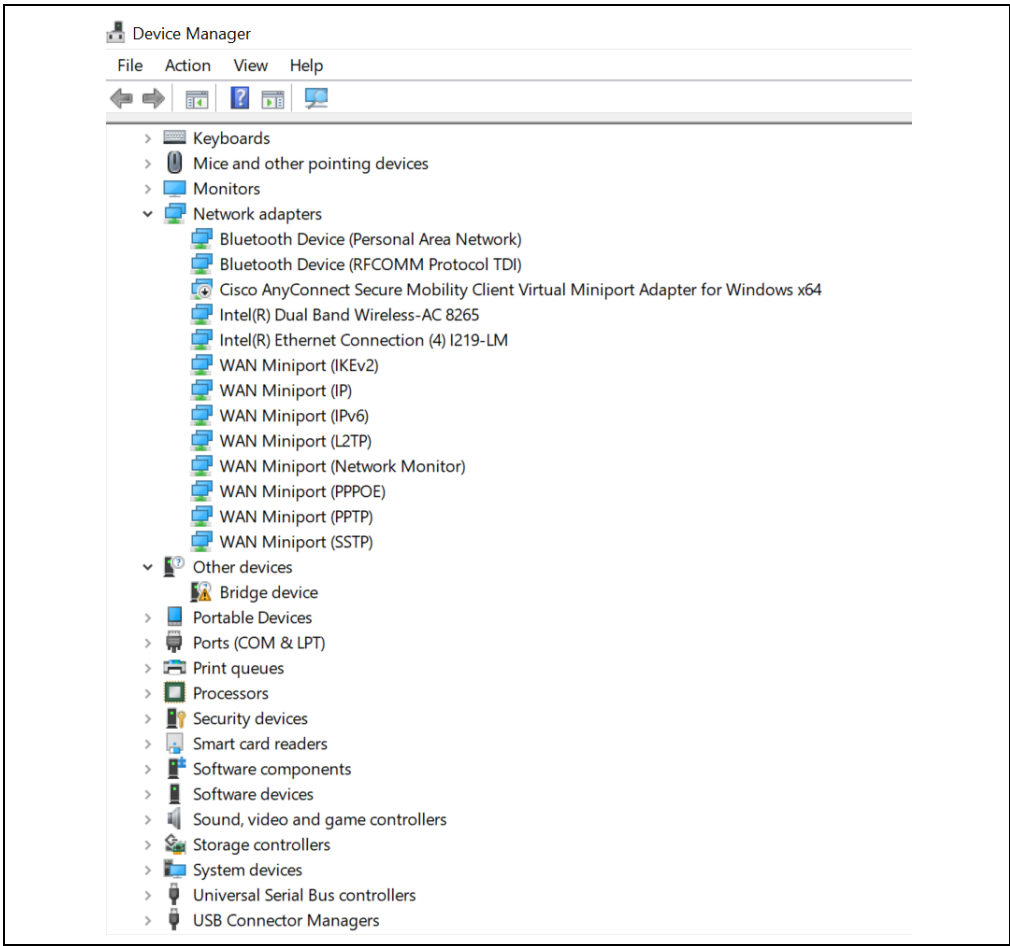
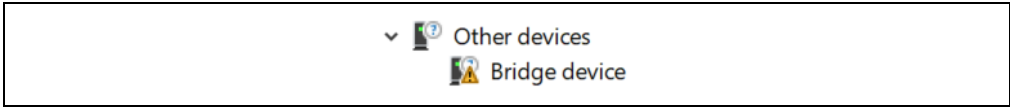

FIGURE 2-1: View of “Device Manager” Screen.
FIGURE 2-2: Close-up of “Bridge device” with Error.
2. Open "Device Manager". Look at "Bridge device". If it has a yellow triangle/exclamation mark as shown in Figure 2-1 and Figure 2-2, the correct USB driver needs to be installed.